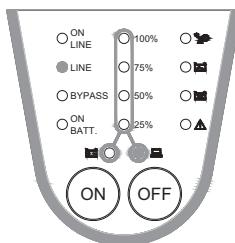

Fig. 3-1 STANDBY Mode
- When the utility power is applied to the UPS, the fan (in rear panel) will run and all LED indicators will light for about 2-3 seconds. Meanwhile, the CPU inside the UPS will determine the initial parameters. Users can also check if all the LED indicators are normal. The UPS is set in "STANDBY Mode" initially. After you hear a 'beep' sound, the load LED lights on and the line LED indicator shows the AC utility status. See Fig. 3-1.
To shut down the UPS, press the OFF button until you hear a “beep” sound, After a few seconds, the UPS will be powered off. Even though the OFF button has been pressed, the UPS will keep charging when the UPS operates in “STANDBY Mode”. To fully shut down the UPS, it is suggested that you unplug the power cord. See Fig. 3-1.